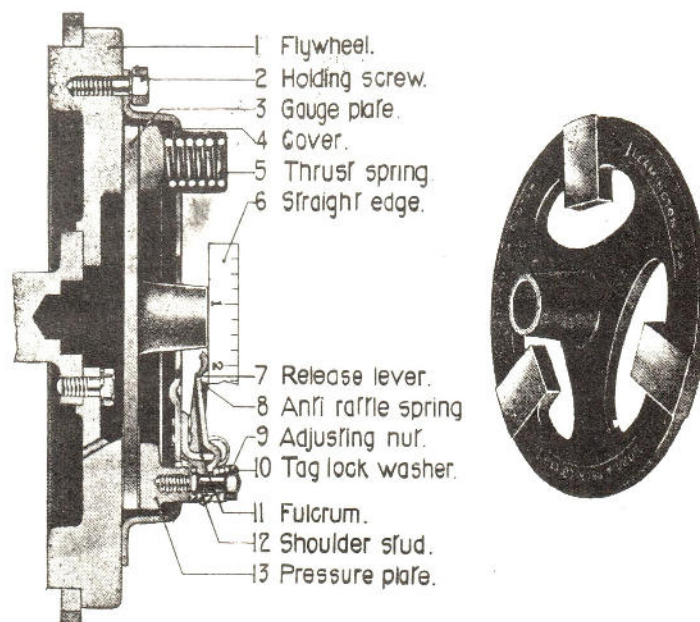

Fig. 32.
See Fig. 32
Satisfactory operation of the clutch is dependent on the accurate adjustment of the release levers. This must be carried out before clutch has been assembled to flywheel and should only be necessary where certain new parts have been fitted to the cover assembly. The maximum allowable difference in the height of release levers is 0.005". To obtain this accuracy most easily, use special Gauge Plate shown in Fig. 32 in conjunction with flywheel. (These gauges are obtainable direct from Messrs. Borg and Beck, Leamington Spa, specifying the diameter of the driven plate for which it is required.) The flywheel may be mounted on the engine or lying on the bench, whichever is the more convenient and proceeding as follows:—
1. Place gauge plate centrally in flywheel as shown in Fig. 32 in place of driven plate.
3. Place a straight edge across gauge plate boss and tip of one release lever as shown in Fig. 32.